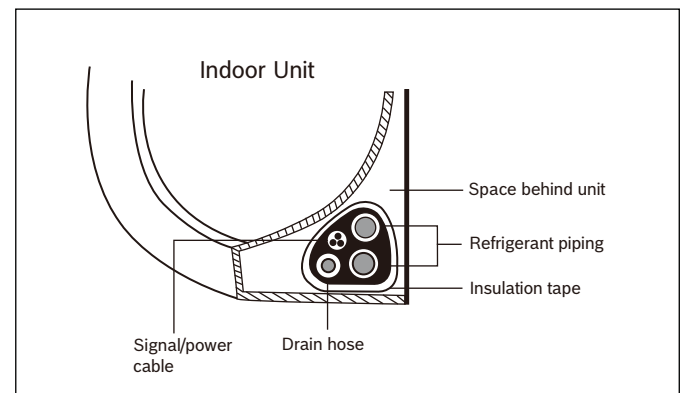

Figure 15
1. Bundle the drain hose, refrigerant pipes, and signal/power cable according to Figure 15.
3. Using insulation tape, wrap the signal/power wire, refrigerant pipes, and drain hose tightly together. Double-check that all items are bundled in accordance with Figure 15.